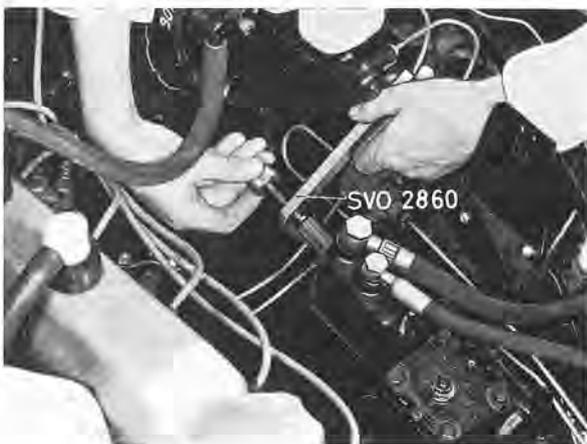

Fig. 6-65. Removing the sealing ring
4. Carefully apply tool SVO 2860 to the sealing ring. Tighten the screw (Fig. 6-65). This also tightens the sealing ring. If the ring sticks in the circlip groove, carefully turn the tool backwards and forwards.